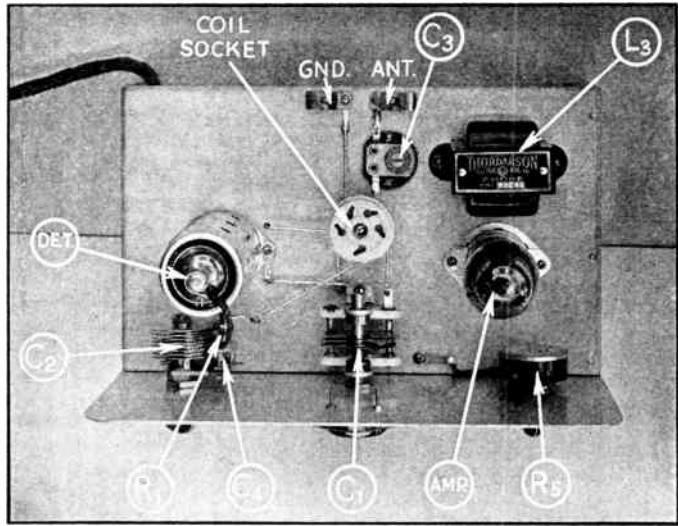

Fig. 806 — Plan view of the two-tube receiver.
The panel serves as the connection between the rotor plates of  $C_1$  and  $C_2$ . The other connections in the r.f. circuit are made by bus wire as shown in Fig. 806. The ground connection (B) on the coil socket is made to the rear end-plate of  $C_1$ . A connection also is brought from the detector shield to this point so that the shield will be grounded. The left-hand terminal of  $R_5$  (viewed from the front) goes to a